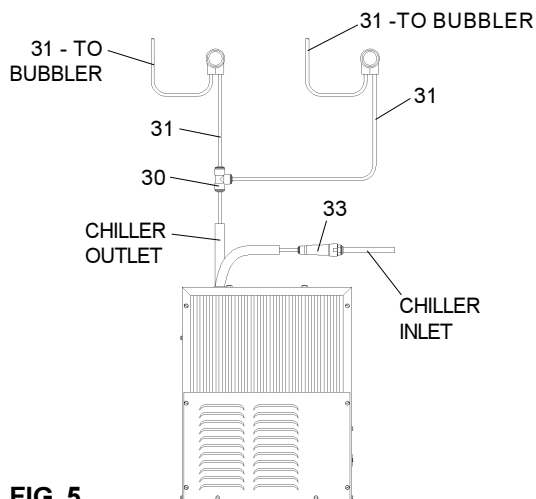

FIG. 5
3. **ERHPA MODELS:** Make connection between remote chiller and building supply line. Inlet port is marked on the chiller (1/4" O.D. copper tube). Bend the copper tube (provided) at an appropriate length from chiller to opening in frame. Install the in-line strainer (provided with chiller) by pushing it in until it reaches a positive stop, approximately 3/4" (19mm) on the marked chiller inlet port. Connect building supply line to strainer. **DO NOT SOLDER TUBES INSERTED INTO THE STRAINER AS DAMAGE TO THE O-RINGS MAY RESULT.** (See Figure 5)
5. **Install** the fountain. Mount the fountain to the upper panel and the wall frame with (4) 1/4" x 3/4" (19mm) long bolts and nuts (provided). Tighten securely.
7. **ERHPA MODELS:** Make connections between remote chiller outlet tube and fountains. Outlet port is marked on the chiller (1/4" O.D. copper tube). Install a 1/4" tee (provided) on the marked chiller outlet port. Insert the 1/4" poly tubing coming from the fountains into the tee. Turn on water supply and check for leaks. **DO NOT SOLDER TUBES INSERTED INTO THE TEE AS DAMAGE TO THE O-RINGS MAY RESULT.** (See Figure 5).